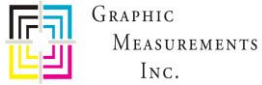

Fig. 70
3. **The Host reports that the Press Console is offline.** (Yellow warning box in the middle of the screen (Fig. 70) that the “Press Console is not responding to communications”).